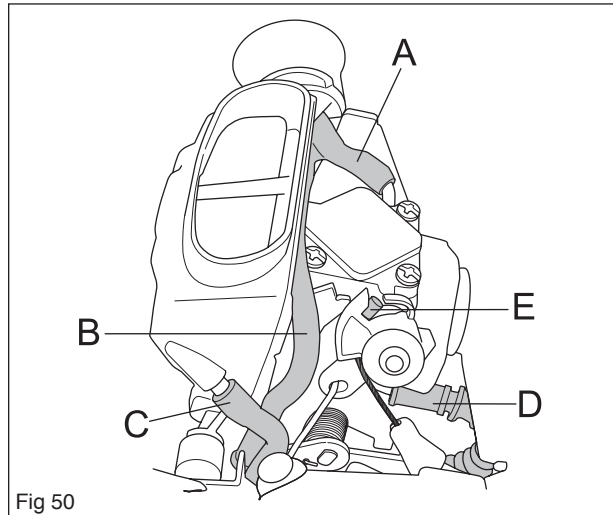

Fig 50
3. Loosen the hoses A to D. See figure 50.
6. Hook on the throttle cable E in the intake bellow. See figure 50.